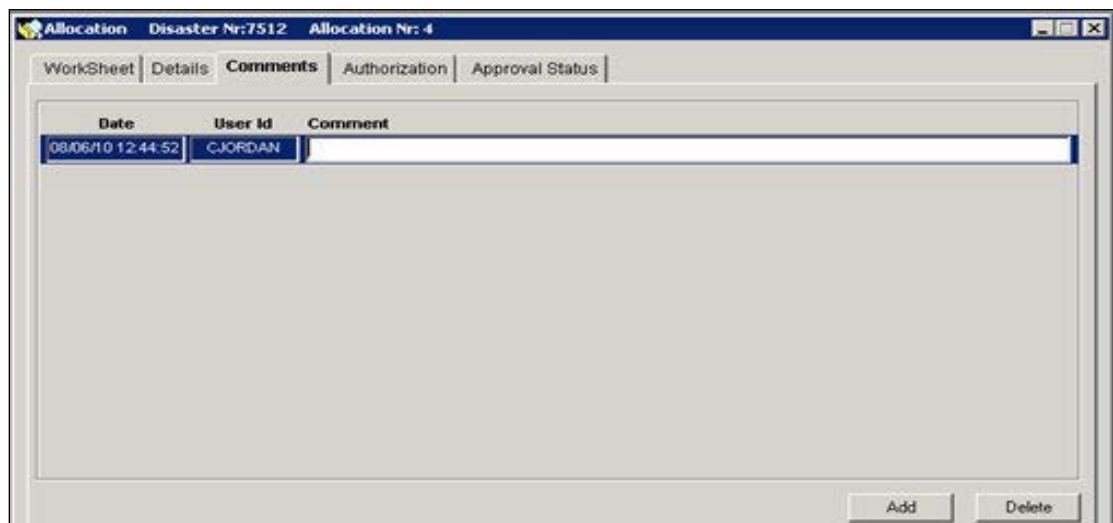

Figure 10-16: Comments Tab with New Row Added
21. Click the ADD button. A new row for adding comments is displayed. The system auto-fills the User Name, the Date, and the Time of the entry (Figure 10-16).